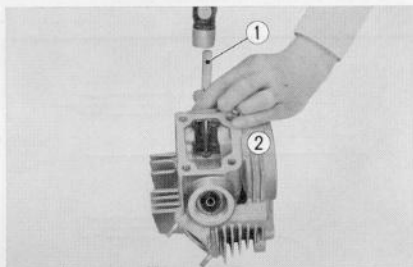

Fig. 3.22 ① Valve guide driver
5. When replacement of the valve guide becomes necessary, remove and replace with an oversize guide, use the valve guide remover (Tool No. 07047-04001) and the valve guide driver (Tool No. 07046-21601) for replacement operation. After installing the valve guide, use reamer to obtain the proper valve clearance. (Fig. 3.22)